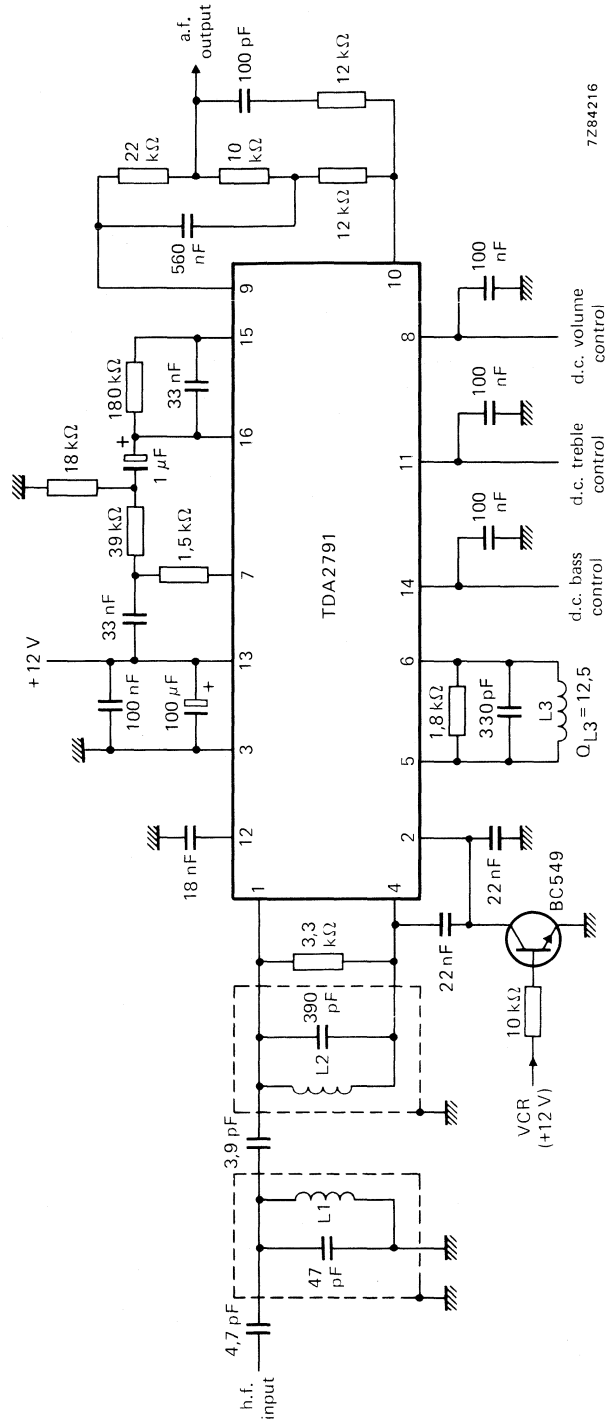

Fig. 9 Application circuit diagram.
**CHARACTERISTICS**Measured in Fig. 9 at  $T_{amb} = 25$   $^{\circ}C$ ;  $V_{13.3} = 12$  V;  $f = 5,5$  MHz (unless otherwise specified)
(1) This is actually the a.f. output voltage as shown in Fig. 9.